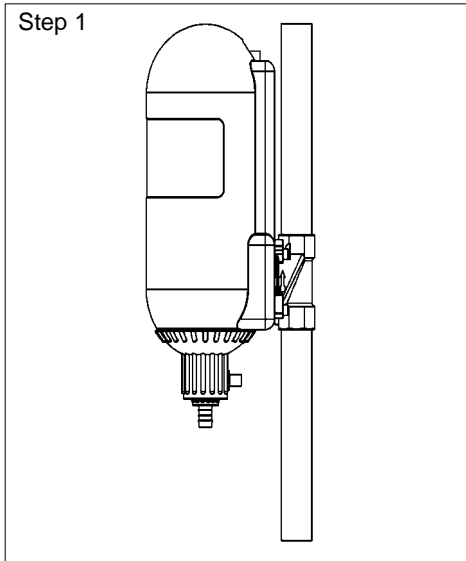

Fig. 6: Operation Position
- When the bucket is half full the backwashing process must be ended. Otherwise the bucket can overflow. Therefore the bucket must be adequately dimensioned (see fig. 6).